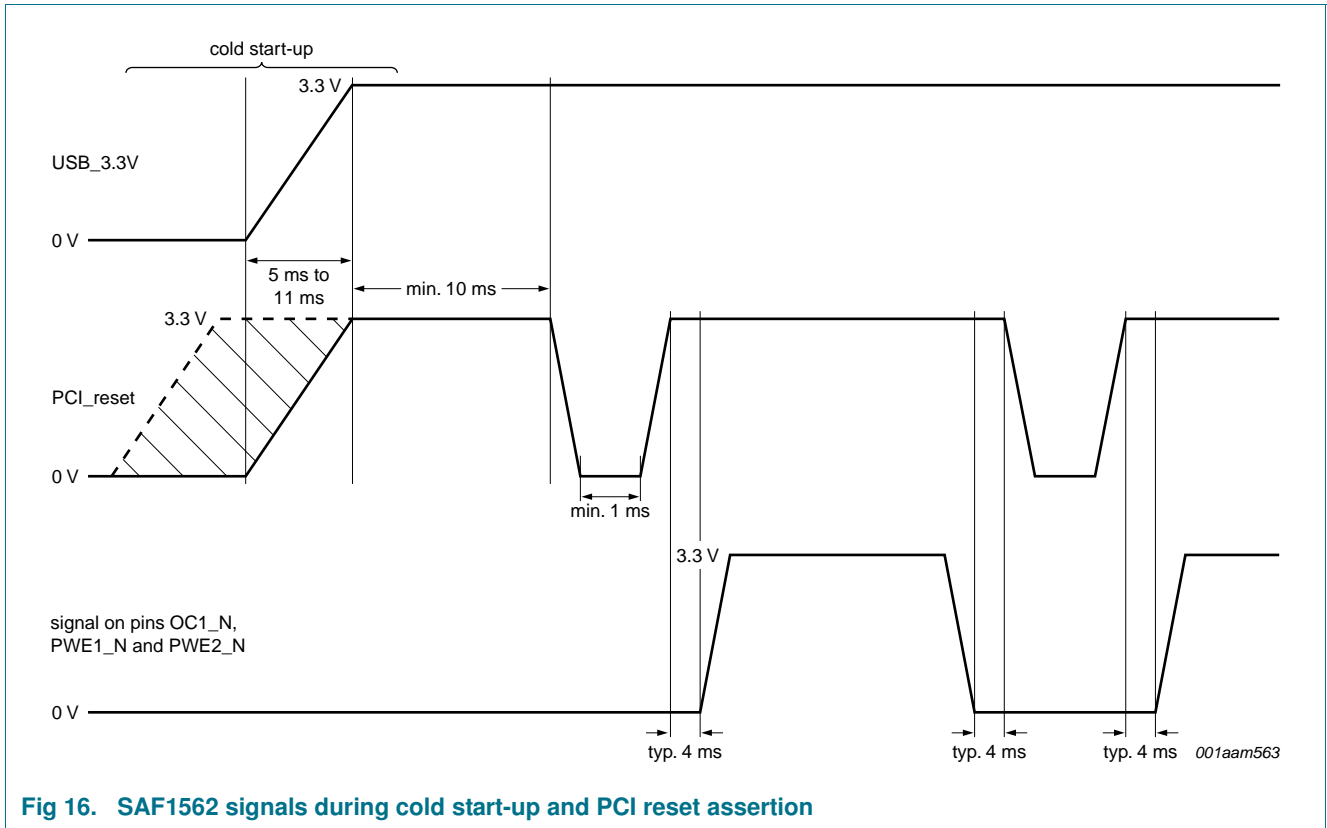
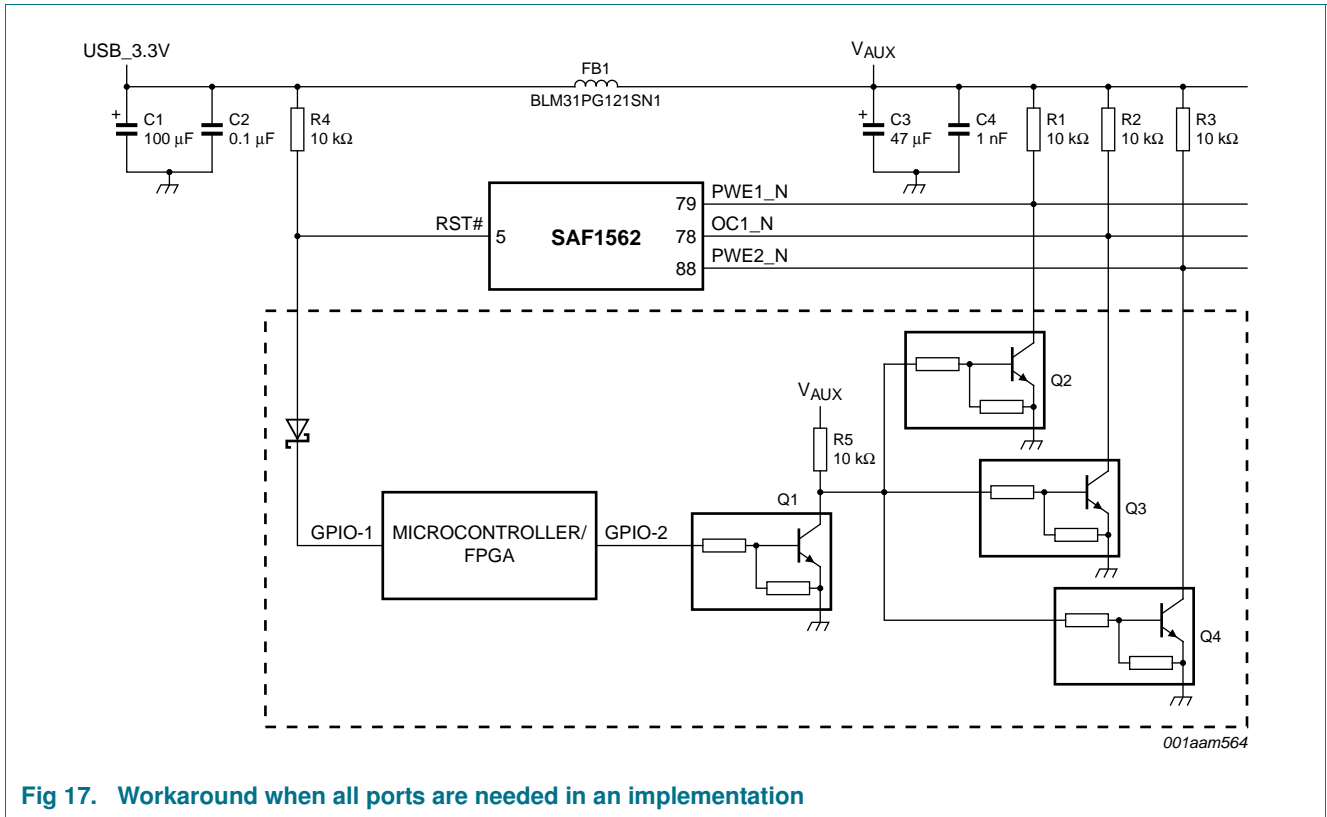

Fig 16. SAF1562 signals during cold start-up and PCI reset assertion
Fig 17. Workaround when all ports are needed in an implementation
Figure 16 shows the timing diagram which resolves the problems described in Section 19.19.1.
Ensure that the signal on pins OC1\_N, PWE1\_N and PWE2\_N is not HIGH or toggling during the PCI reset assertion as shown in Figure 16.
- If port 1 and port 2 are needed then Figure 17 is one application example. To achieve the timing requirement as shown in Figure 16 use General Purpose Input Output (GPIO) ports from the microcontroller to control the key signals assertion. The OC1\_N, PWE1\_N and PWE2\_N signals must be asserted before the PCI reset assertion and must be deasserted after the PCI reset deassertion. The recommended safety margin for the timing assertion and deassertion between the key signals and PCI reset is approximately 4 ms.
Ensure that the PCI reset is HIGH during cold start-up (refer to Figure 16 for the timing diagram).
Ensure that the power supply during cold start-up ramps up linearly from 0 V to 3.3 V within 5 ms to 11 ms (refer to Figure 16 for the timing diagram).